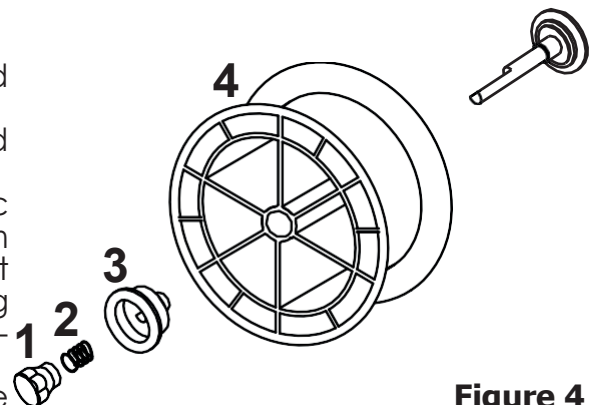
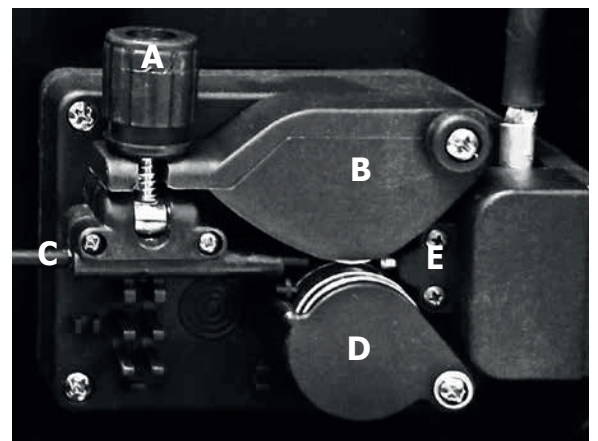

Figure 4
Figure 5
- Loosen the nut (1) of the spool holder (brakedrum) and remove the spring (R) and the external ring (3). (Fig.4)
- Remove the plastic protection from the spool (4) and place it on the spool holder.
- Mount the external ring (3), the spring (2) and the plastic lock nut (1) again. These parts form the braking system of the wire spool speed. NOTE: Do not tighten the nut too much, excessive pressure strains the wire feeding motor, while too little pressure does not allow the immediate stop of the wire spool at the end of the welding.
- Loosen and lower the plastic knob (A) (Fig.5). Open the pressure arm (B) of the feeder. Extract the wire from the torch liner.
- When the wire is disconnected, grasp it with pliers so that it cannot exit from the spool. If necessary, straighten it before inserting it in the wire input guide (C). Insert the wire on the lower roll (D) and in the torch liner.